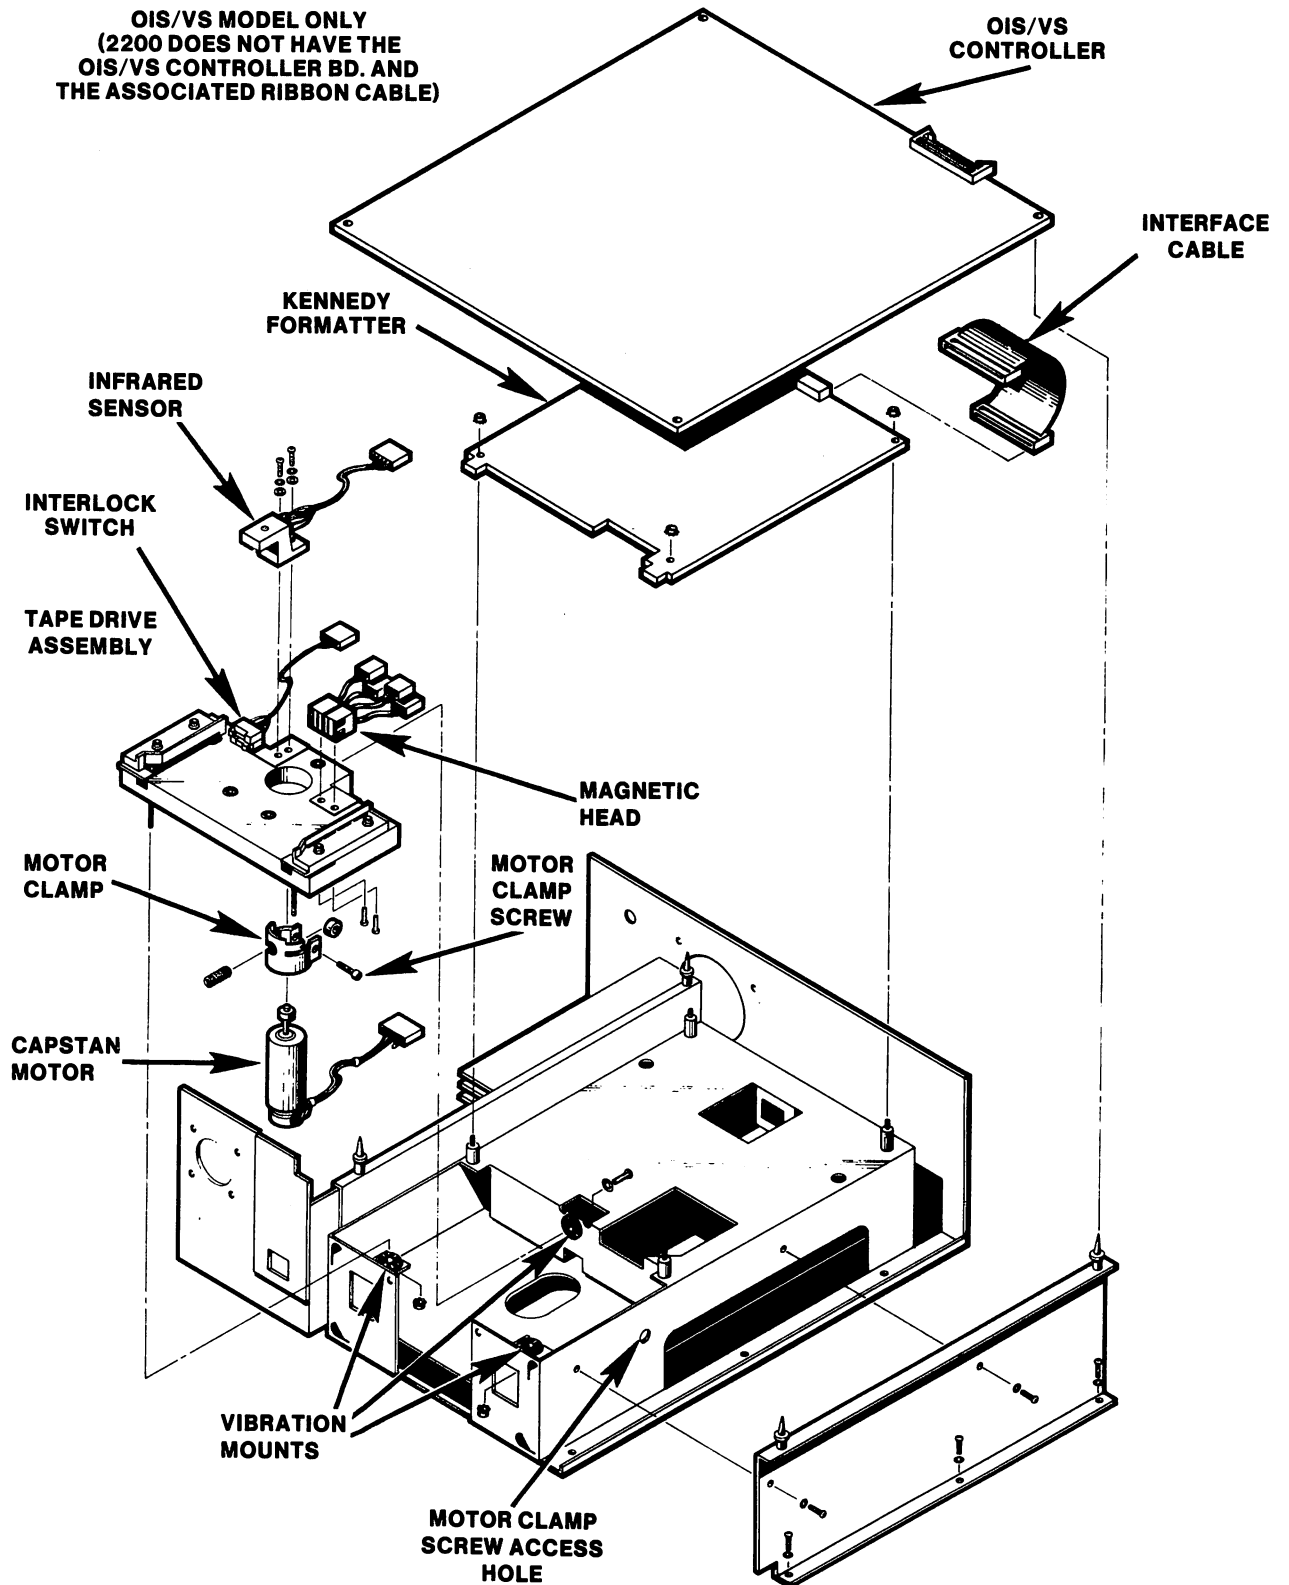

Figure 5-7 Kennedy Replaceable Parts Assembly
Adjustments and any precautions which should be exercised are described in the procedures which follow. Parts discussed below are shown in Figure 5-7.
- b. Using a long Allen wrench (#99-764) loosen the motor clamp screw by gaining access to it via one of the side holes provided for this purpose in the frame (see Figure 5-7).
- b. Disconnect the interface cable (see Figure 5-7) from the host to protect the formatter interface drivers.